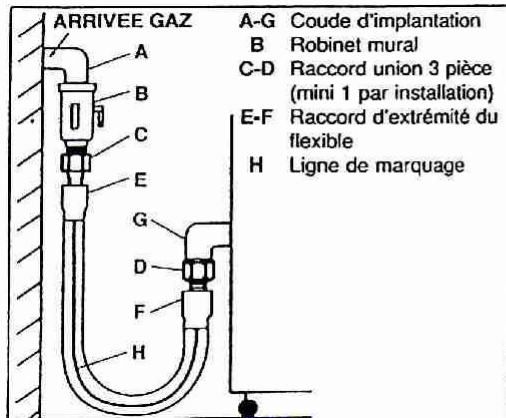

Figure 01
- It must be mounted between 90° elbows (*see fig. 01*).
To connect the roasting pan to the gas supply line on a permanent basis, use a TUBOGAZ⁽¹⁾ or similar gas and propane approved metal hose meeting NF D 36-123 (see fig. 01).